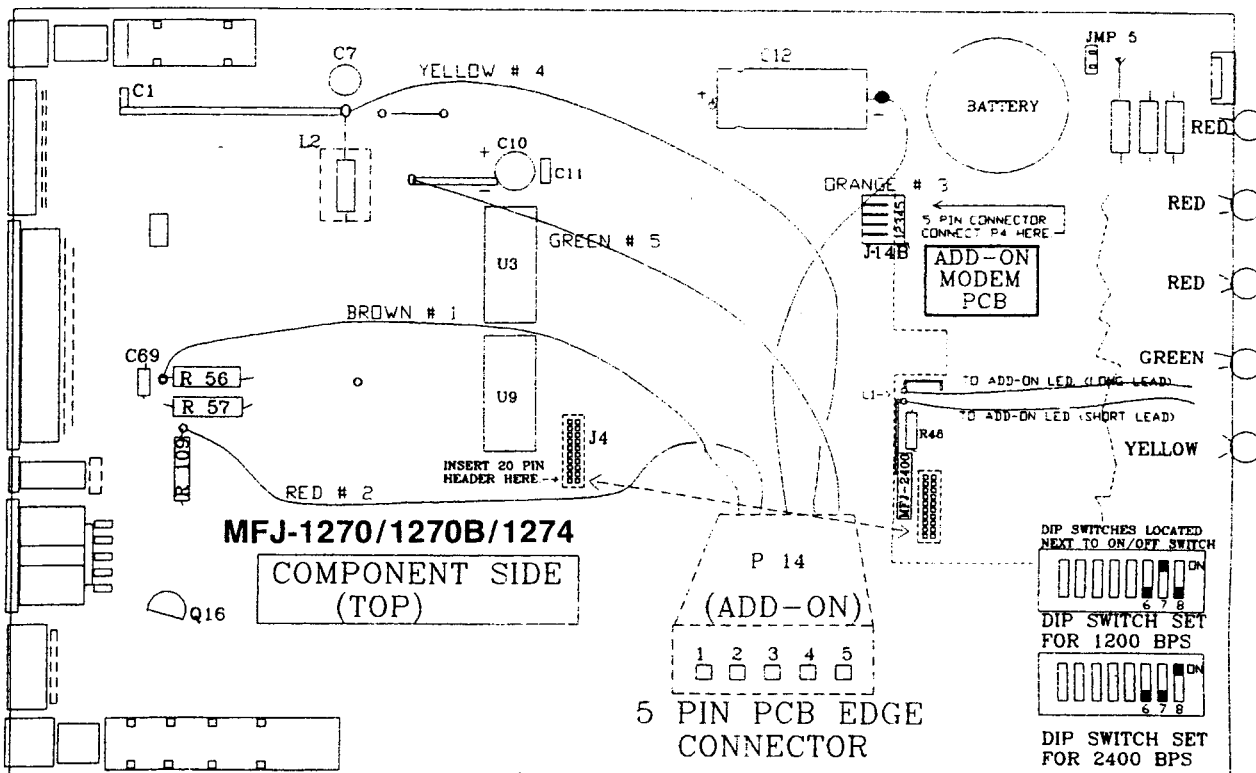

FIGURE 2
B. INSTALLING THE 5 PIN I/O CONNECTOR: Refer to FIGURE 2
Prepare the five wires by removing 3/32 inch of insulation from the free ends. Tin each of the bare ends with solder to prevent fraying of the wires, and to make it easy to solder to the five locations shown in FIGURE 2. Solder the wires to the points shown in the accompanying drawing. The wiring is as easy as 1, 2, 3, 4, and 5 since the wires follow the standard color code. (SEE FIGURE 2)
Connect the proper color wire to each of the 5 points indicated in FIGURE 2.
Included in the MFJ-2400 modification kit is an LED which can be added to the front panel of the MFJ-1270, MFJ-1270B or MFJ-1274. The LED and pictorial drawing is supplied with the kit in FIGURE 2. The 2400 BPS "LED" installation is a user option. The location of this LED is the users choice, however our experience shows that a small hole the size of the LED just above the "STA" LED is adequate. This LED will illuminate when the TNC is in the 2400 BPS mode, to give the user an indication that 2400 BPS is "active". Connect the LED to the location marked "L1" on the modem PCB.
Negative is the short lead, and positive (+) is the longer lead of the LED. Connect as shown in the illustration in FIGURE 2.